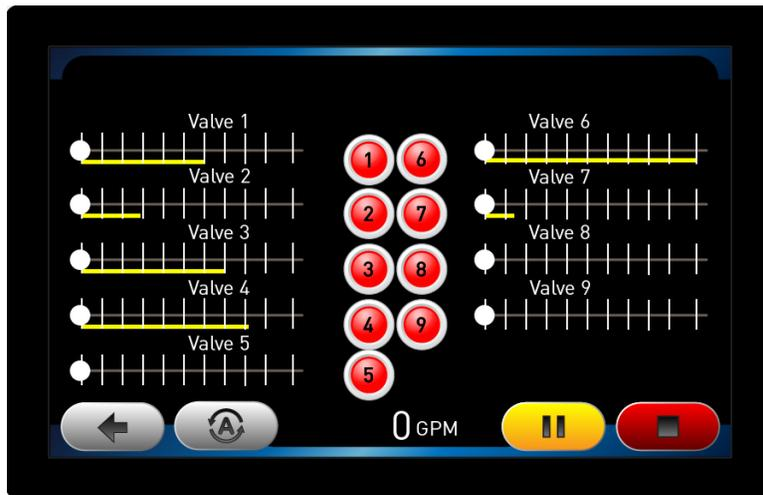

Figure 38: Manual Control Main page
- Press the  button to go to the Manual Control Main page (Figure 38).
- Use the white circle sliders to adjust the “percent open” valve positions. The slider is located beneath the particular valve’s label (“Valve 1”, “Valve 2”, etc. in Figure 38).